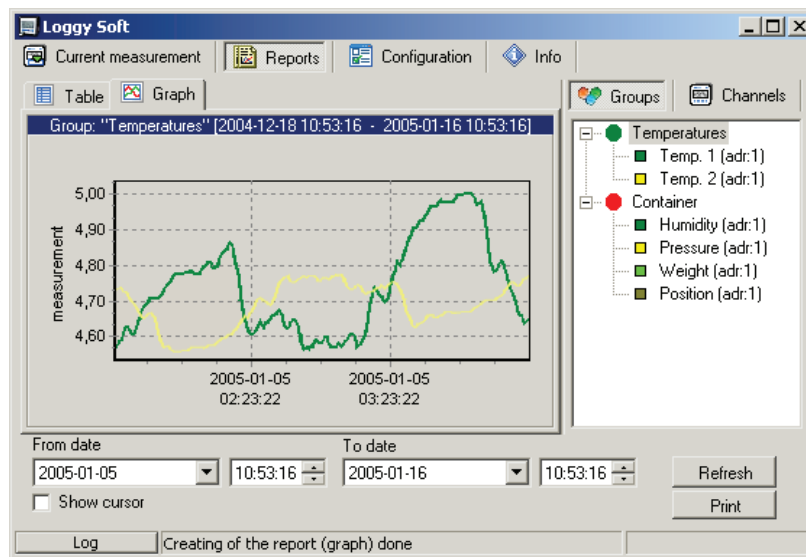

Fig. 3.6. Reports - Graph tab
Graph tab (Fig. 3.6) is used for viewing and printing of measurement results recorded by device (e.g. temperature, humidity) in the form of a graph. Measurements from a maximum of five recorded measurement channels can be viewed.
- **graphs area** - plots measured values (e.g. temperature, humidity) in function of time. Each channel is distinguished by a different colour (Fig. 3.6);
- click appropriate tab **Groups** or **Channels** (Fig. 3.6),